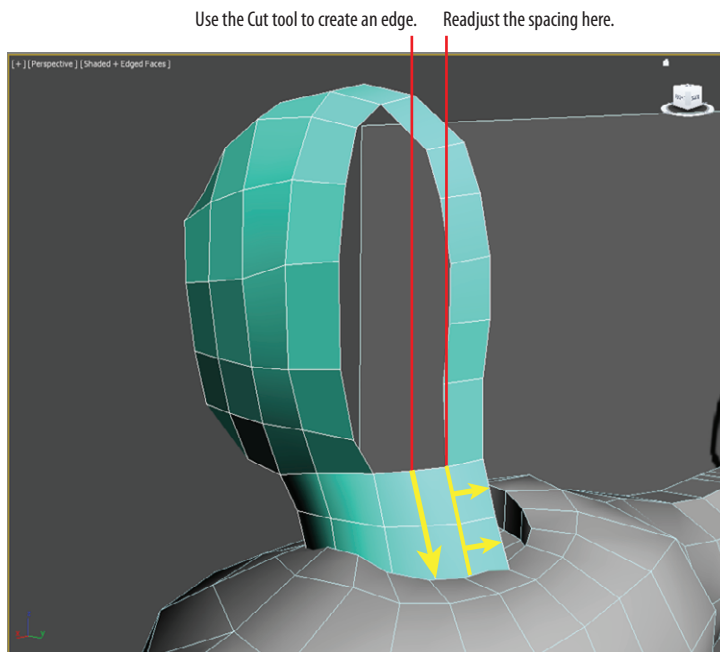

FIGURE 9.14 Create a new edge for the back of the head/neck using the Cut tool.
2. Use the Cut tool to add another vertical edge, as shown in Figure 9.14.